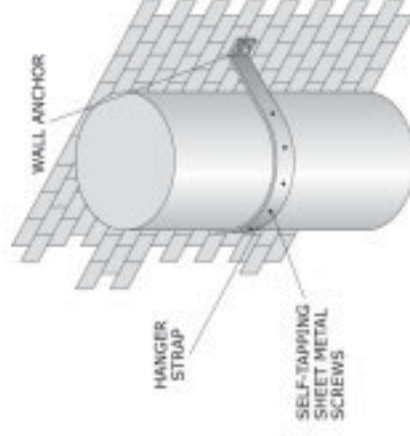

Figure 53: Strap connected directly to wall.
**Straps in Figure 53 (above) do not provide vertical bracing.**